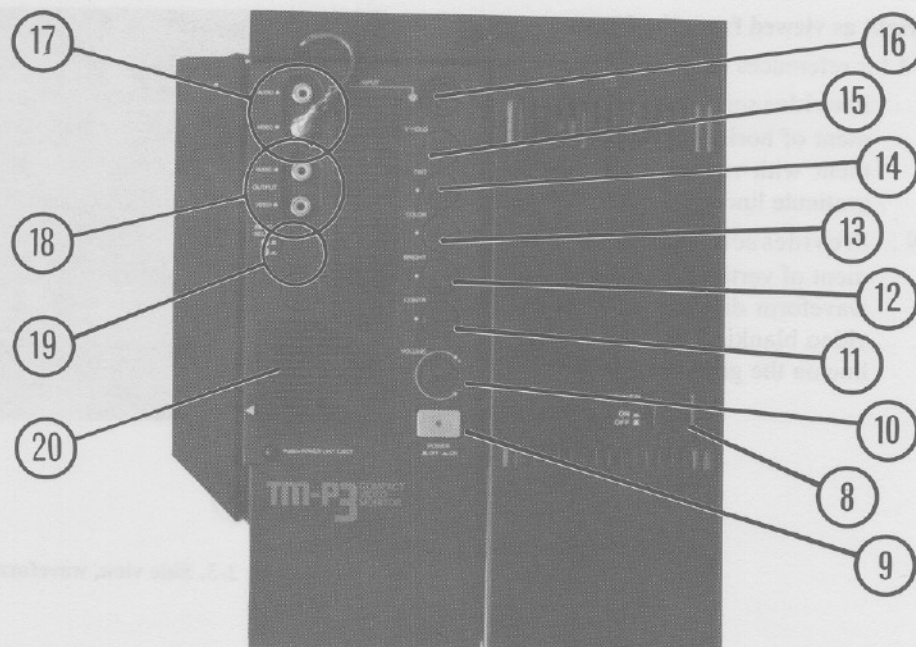

Figure 2-2. Top panel
Refer to Figure 2-2 for references (8) to (20).
- ⑧ POWER OFF-ON switch Push to switch on the waveform monitor section. Push again to switch off. The red PWR LED (4) glows when power is on.
- ⑨ POWER OFF-ON switch Push to switch on the picture/sound monitor section. Push again to switch off. One of the red LED's (3) on the front panel glows when power is on.
- ⑩ VOLUME control Turn clockwise to increase volume.
- ⑪ CONTRast control Turn clockwise to increase picture contrast. The control is detented at the normal setting for correct video levels.
- ⑫ BRIGHThess control Turn clockwise to raise picture brightness. The control is detented for normal brightness setting at average viewing conditions.
- ⑬ COLOR control Turn clockwise to increase color saturation. The control is detented at the correct setting for signals with the correct Y:C ratio.
- ⑭ TINT control Adjusts decoder phase for correct hues. The control is detented at mid-range for correct color for normal NTSC input signals.
- ⑮ V-HOLD Adjusts vertical scan frequency. Set as needed to prevent vertical rolling of the picture.
- ⑯ 6-pin CH-2 connector Accepts audio and video inputs to CH-2 via a six-pin connector supplied as a standard accessory.
- ⑰ Phono-type CH-1 jacks Accepts audio and video inputs to CH-1 via phono-type plugs. Note: The CH-1 video input jack is normally connected to the loop-through cable from the waveform monitor section.